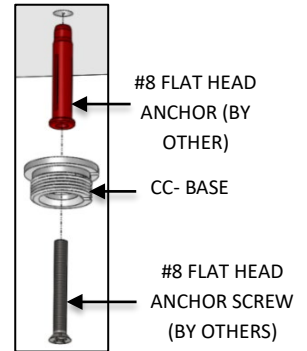

FIG. 9- HARD CEILING
- Install the CC-BASE to the #8 FLAT HEAD ANCHOR (by others) previously installed at the non-powered mounting location and secure with the #8 FLAT HEAD ANCHOR SCREW (by others) as shown in FIG. 9.